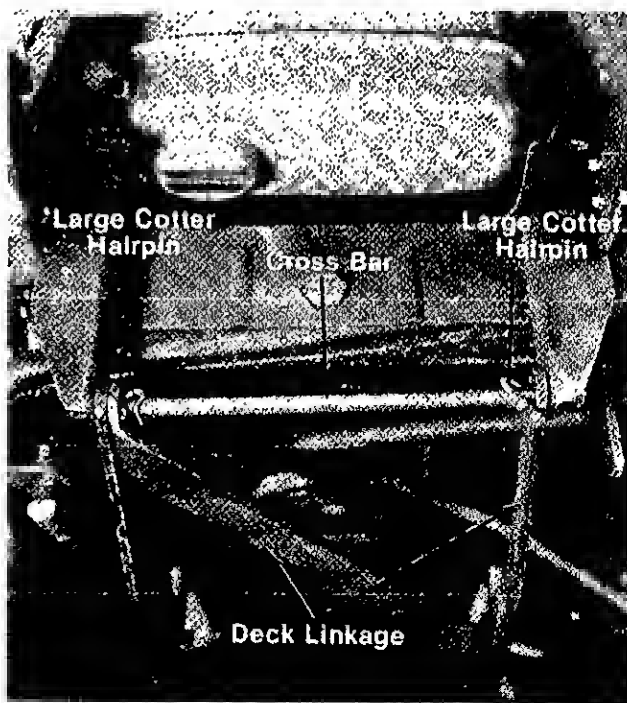

FIGURE 7.
8. Assemble the front cross bar as shown in figure 7 using two large cotter hairpins to attach the deck linkage to the tractor frame.